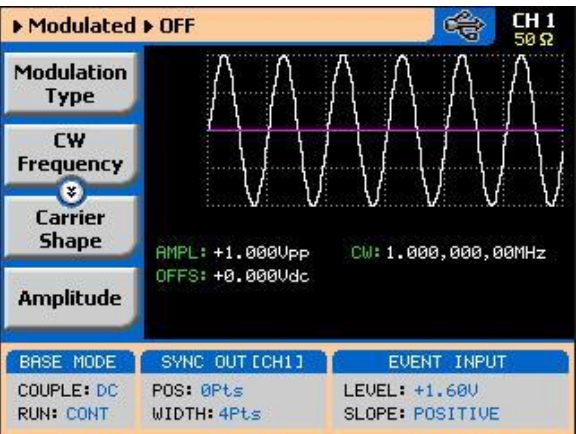

Figure 3-32: Modulation OFF Parameters
The Modulation Off is a special instance of the modulation function, where the output is not modulated, but generates carrier waveform (CW) frequency only. CW can be sine, triangle, or square waveforms. When placed in Modulation Off, the CW is generated from the main outputs continuously. The CW parameter does not change when you switch from one modulation function to another. *Figure 3-32* shows the Modulation Off menus.